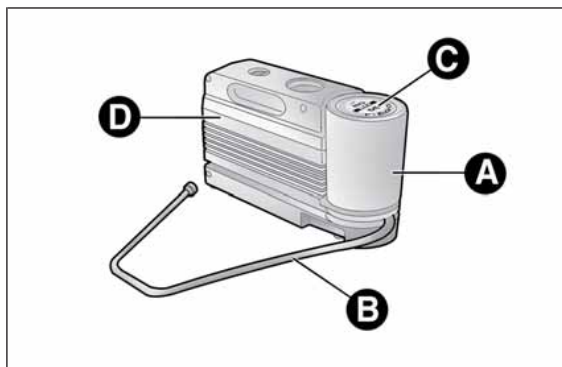

fig. 125
- a bottle fig. 125 containing sealer and fitted with: filling tube B and adhesive label C with the wording "max. 80 km/h" to be placed in a clearly visible position (e.g. on the dashboard) after repairing the tyre;